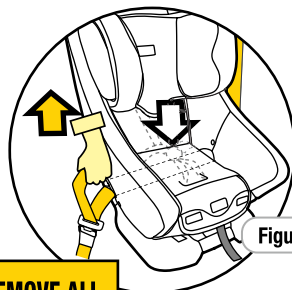

Figure 4
**Step 3:** Push down on the base of the restraint (with knee or hand) whilst pulling the sash section of the vehicle belt firmly up in direction of the yellow arrow in Figure 4. (This will tighten the lap belt across the restraint base).